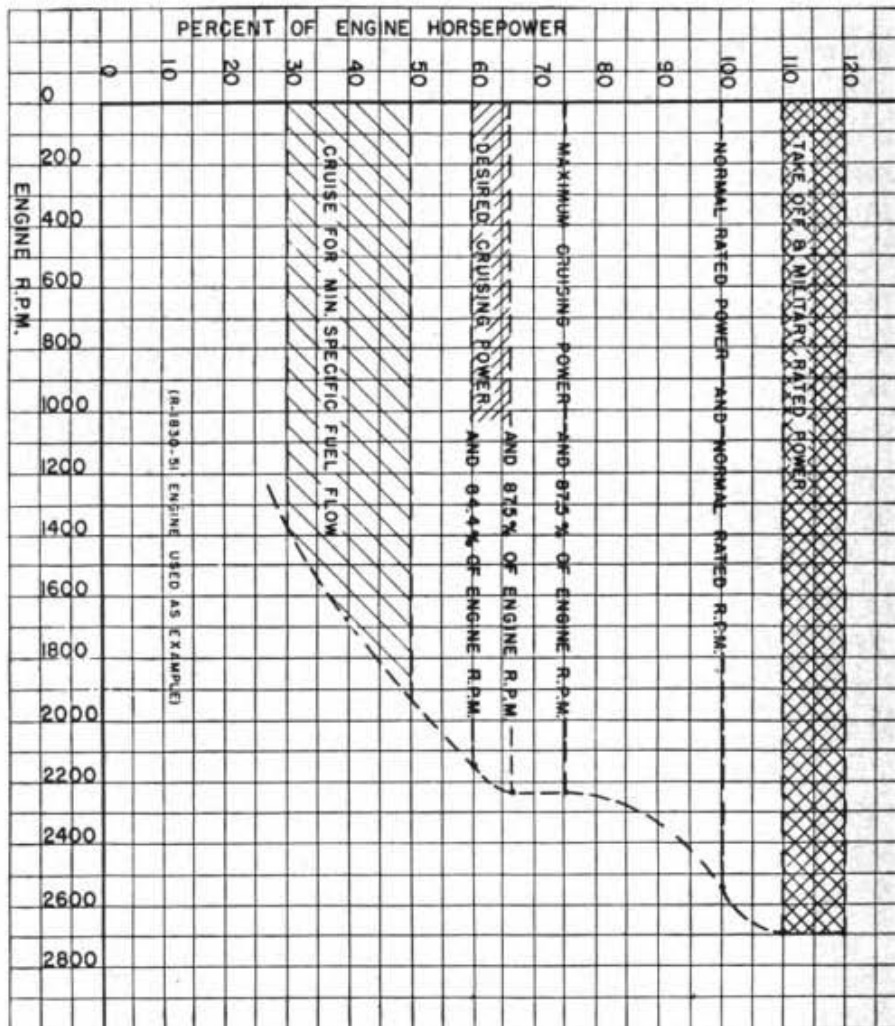

Figure 42. Range of engine flight operating conditions.
n. Ammeter. (1) With the main line switch OFF, check the pointer for zero setting.
(2) With the main-line switch ON and the engine running at cruising rpm, make certain that the ammeter indicates a normal charge, and that the pointer does not oscillate excessively.
a. Take-off and climb. During take-off and climb, the engine is being forced to develop its maximum output (110 to 120 percent of normal rated power, as shown in fig. 42) and maximum amounts of fuel and oil are being consumed. Engine power, speed, and temperatures have reached, or are approaching, their maximum limits. Because of these conditions, operating time at maximum power output must be limited to periods of short duration to prevent danger of structural break-down. The following instructions pertain to take-off operations under all conditions:
(1) CRUISING FOR MINIMUM SPECIFIC FUEL FLOW. The horsepower indicated on the graph (fig. 42) is not determined from a fixed percentage of normal rated power but represents the highest horsepower possible when the engine rpm, manifold pressure, and other conditions are adjusted to a point where the fuel consumption per brake horsepower per hour is at a minimum. As shown in figure 42, the setting of the controls will generally be positioned to have the engine deliver between 30 and 50 percent of the normal rated power under the conditions stated. (This range was arrived at by selecting the average of the specifications of several commonly used engines.) During low-speed cruising, the engine operates at the rpm that will permit a reasonable forward speed of the aircraft with minimum fuel consumption per hour of engine operation. Within the limits mentioned, the mixture control is set in the LEAN BEST POWER position or leaner if permitted for the particular engine. Low-speed cruising is recommended for maximum air-mile range with a given fuel supply. The usefulness of low-speed cruising may be offset in cold weather or at high altitudes by poor fuel vaporization, even though the carburetor heater is utilized. When carburetor icing conditions exist, low-speed cruising may not produce enough heat for the carburetor air heater effectively to prevent or eliminate ice formation in the induction system. (See par. 4g.)
(2) DESIRED CRUISING. Desired cruising is that engine speed which permits the use of a reliable engine horsepower to give efficient aircraft performance consistent with economical fuel consumption per hour of engine operation. By reference to figure 42, it may be seen that desired cruising is between 60 and 67 percent of normal rated power and 84.4 and 87.5 percent of normal rated engine rpm. The power plant will operate the majority of hours during its useful life within this range. Within the limits given, the mixture control is set in the best power range or at RICH BEST POWER. The manifold pressure for this condition is specified in the Technical Orders for each particular engine. Desired cruising is recommended when good engine performance and low fuel consumption are required. Intelligent use of the mixture control and
(3) **MAXIMUM CRUISING.** Maximum cruising is that condition which permits the use of a high, reliable, delivered horsepower to give maximum prolonged aircraft performance with a reasonable fuel consumption per hour of engine operation. Reference to figure 42 shows that maximum cruising is determined by taking 75 percent of the normal rated power and 87.5 percent of the normal rated engine rpm. Within the limits mentioned, the engine is usually operated with the mixture control adjusted halfway between the RICH BEST POWER and FULL RICH positions. The manifold pressure used is specified in the Technical Orders for each particular engine. Maximum cruising is recommended where high engine performance is needed without particular consideration of fuel consumption. Under severe carburetor icing conditions, maximum cruising is desirable to furnish sufficient heat with the carburetor air heater to remove or prevent ice formation. (See par. 4g.)
c. Normal rated power. Normal rated power is the maximum continuous power at which the engine may be operated with safety. As shown in figure 42, normal rated power is that setting of the engine controls which furnishes continuously 100 percent power at normal rated engine rpm.
d. Maximum permissible operation or military rated power. This is the condition of engine operation (at a designated speed) which permits the use of the entire available horsepower of the particular engine. Normally, this operating condition should be avoided and used only as a power reserve in case of emergency. As shown in figure 42, maximum permissible operation is that setting of the engine controls which permits the engine to deliver 110 to 120 percent of the normal rated power of a specified engine rpm. Within the limits mentioned, the engine is usually operated at the maximum permissible manifold pressure. This pressure is limited as specified in Technical Orders for each particular engine installation. The mixture control should be placed in the FULL RICH position. Very high fuel consumption can be expected when operating under these conditions. Under no circumstances should the maximum permissible rpm and manifold pressure be exceeded. During this condition of engine operation, high engine temperatures are to be expected; however, the engine speed and power must be reduced when temperatures approach or reach maximum permissible limits.
(1) Each particular engine installation has a definite critical altitude rating. This is defined as the maximum altitude at which the power